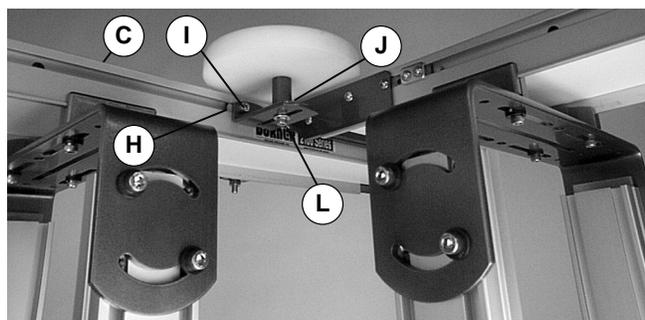
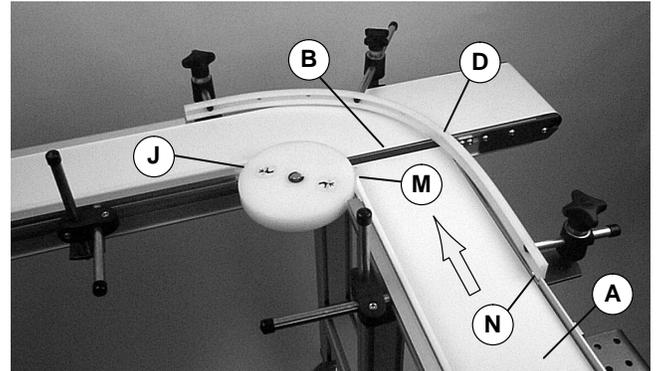

Figure 8
Figure 9
9. Trim excess guide (D) as required.
10. Install T-bar (H of Figure 8) in T-slot of outfeed conveyor (C). Loosely attach guide wheel assembly (J) to T-bar with screws (I).
11. Adjust guide wheel assembly position, as required (Figure 8).
- Tighten screws (I of Figure 8) to 73 in-lb (8 Nm)
- Tighten screw (L) 146 in-lb (16 Nm)
13. On the discharge end of the infeed conveyor (A of Figure 9):
- Install guiding (M) within 1/4" (6 mm) of the guide wheel assembly (J). See instructions provided with guiding.
- Install guiding (N) against the outside turn guide (D). See instructions provided with guiding.